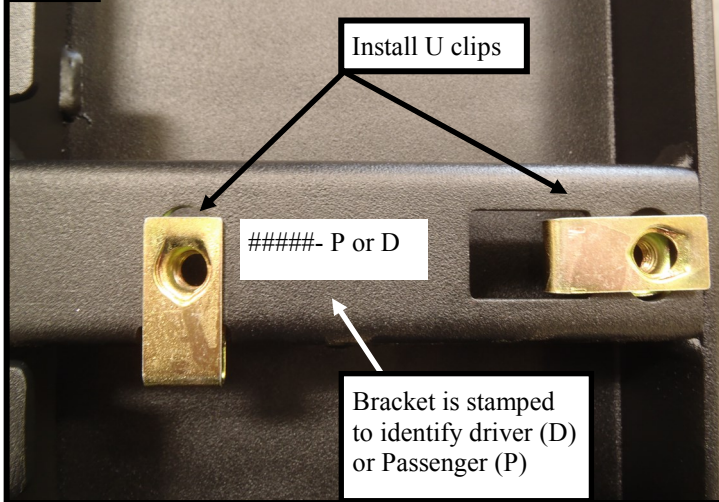

FIG.5
- Take 1 running board (item 1 or 2) and mount them to the brackets. (Fig.5 & 6)